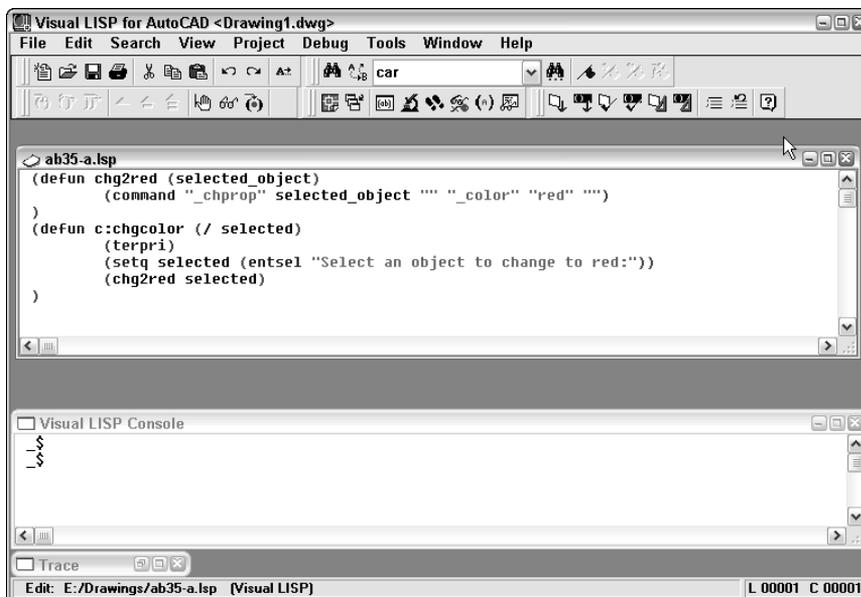

Figure 34-2: An AutoLISP file open in its own window in the Visual LISP window.
3. Click Open. Visual LISP opens the file in its own window, as shown in Figure 34-2.